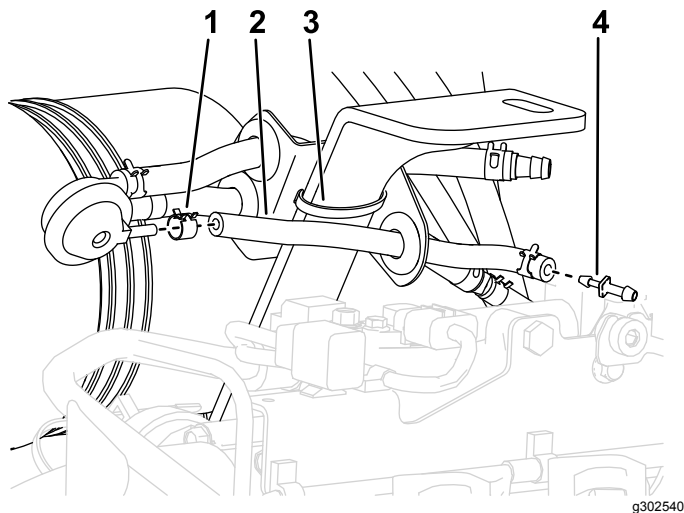

Figure 5
9. Secure the valve bracket assembly to the support bar that extends from the frame with a cable tie (Figure 5).